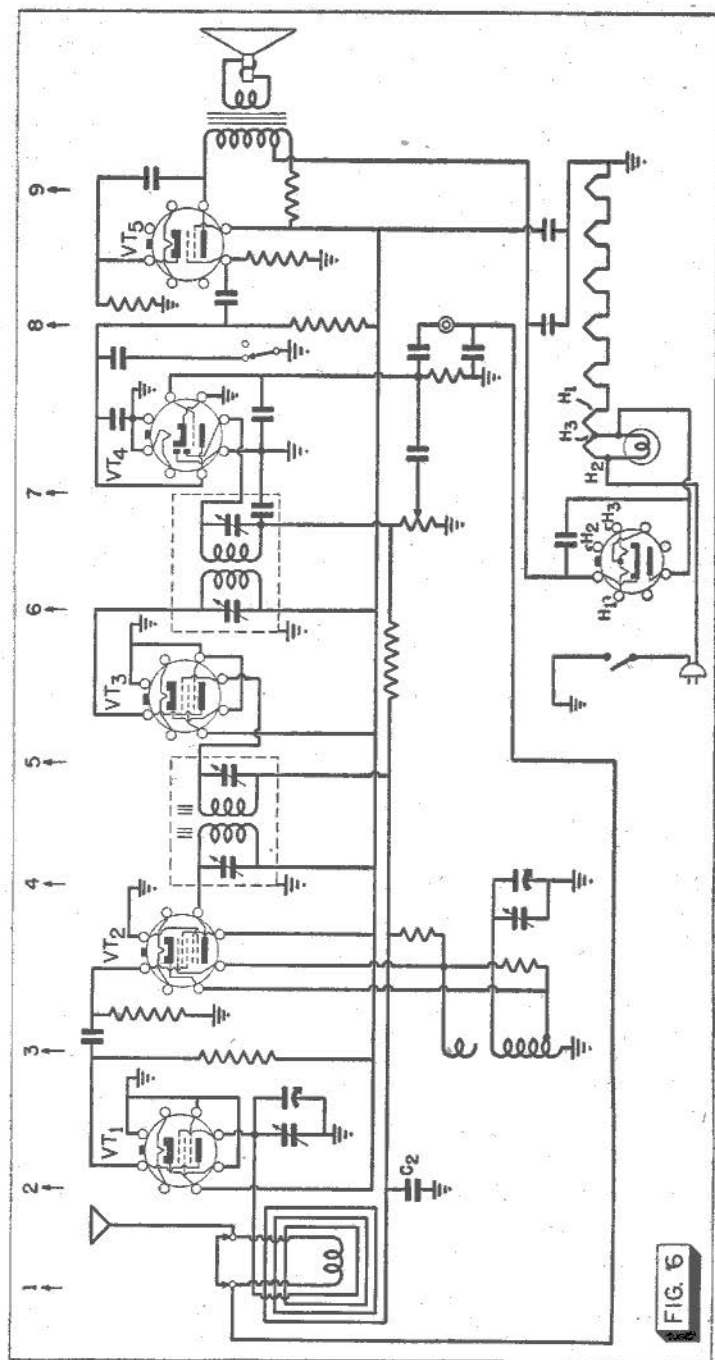

FIG. 6
Table 1 gives the manufacturer's gain figures for the set shown in Fig. 6, and Table 2 lists what are considered to be average gain values. As you can see by comparing the two, some of the values in Table 1 are within
► Now, let's see how to make gain measurements on the set shown in Fig. 6.